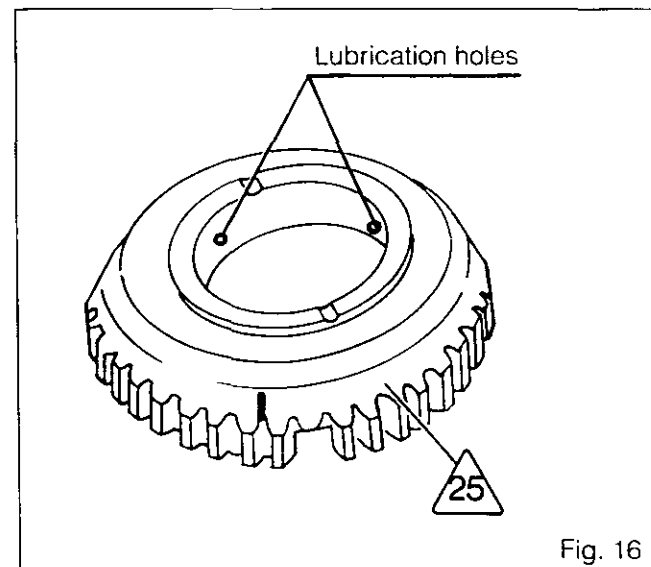

Fig. 16
50. Make sure that the three openings into the 17 bar passage in the hydraulic cover /25\ are not blocked (Fig. 16).
51. Lubricate O-rings (26) and (29) and fit them to piston (28).